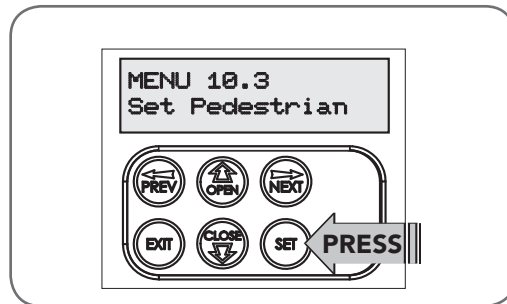

Fig 12.1
4. Press SET to enter Set Pedestrian procedure (Fig. 12.1).